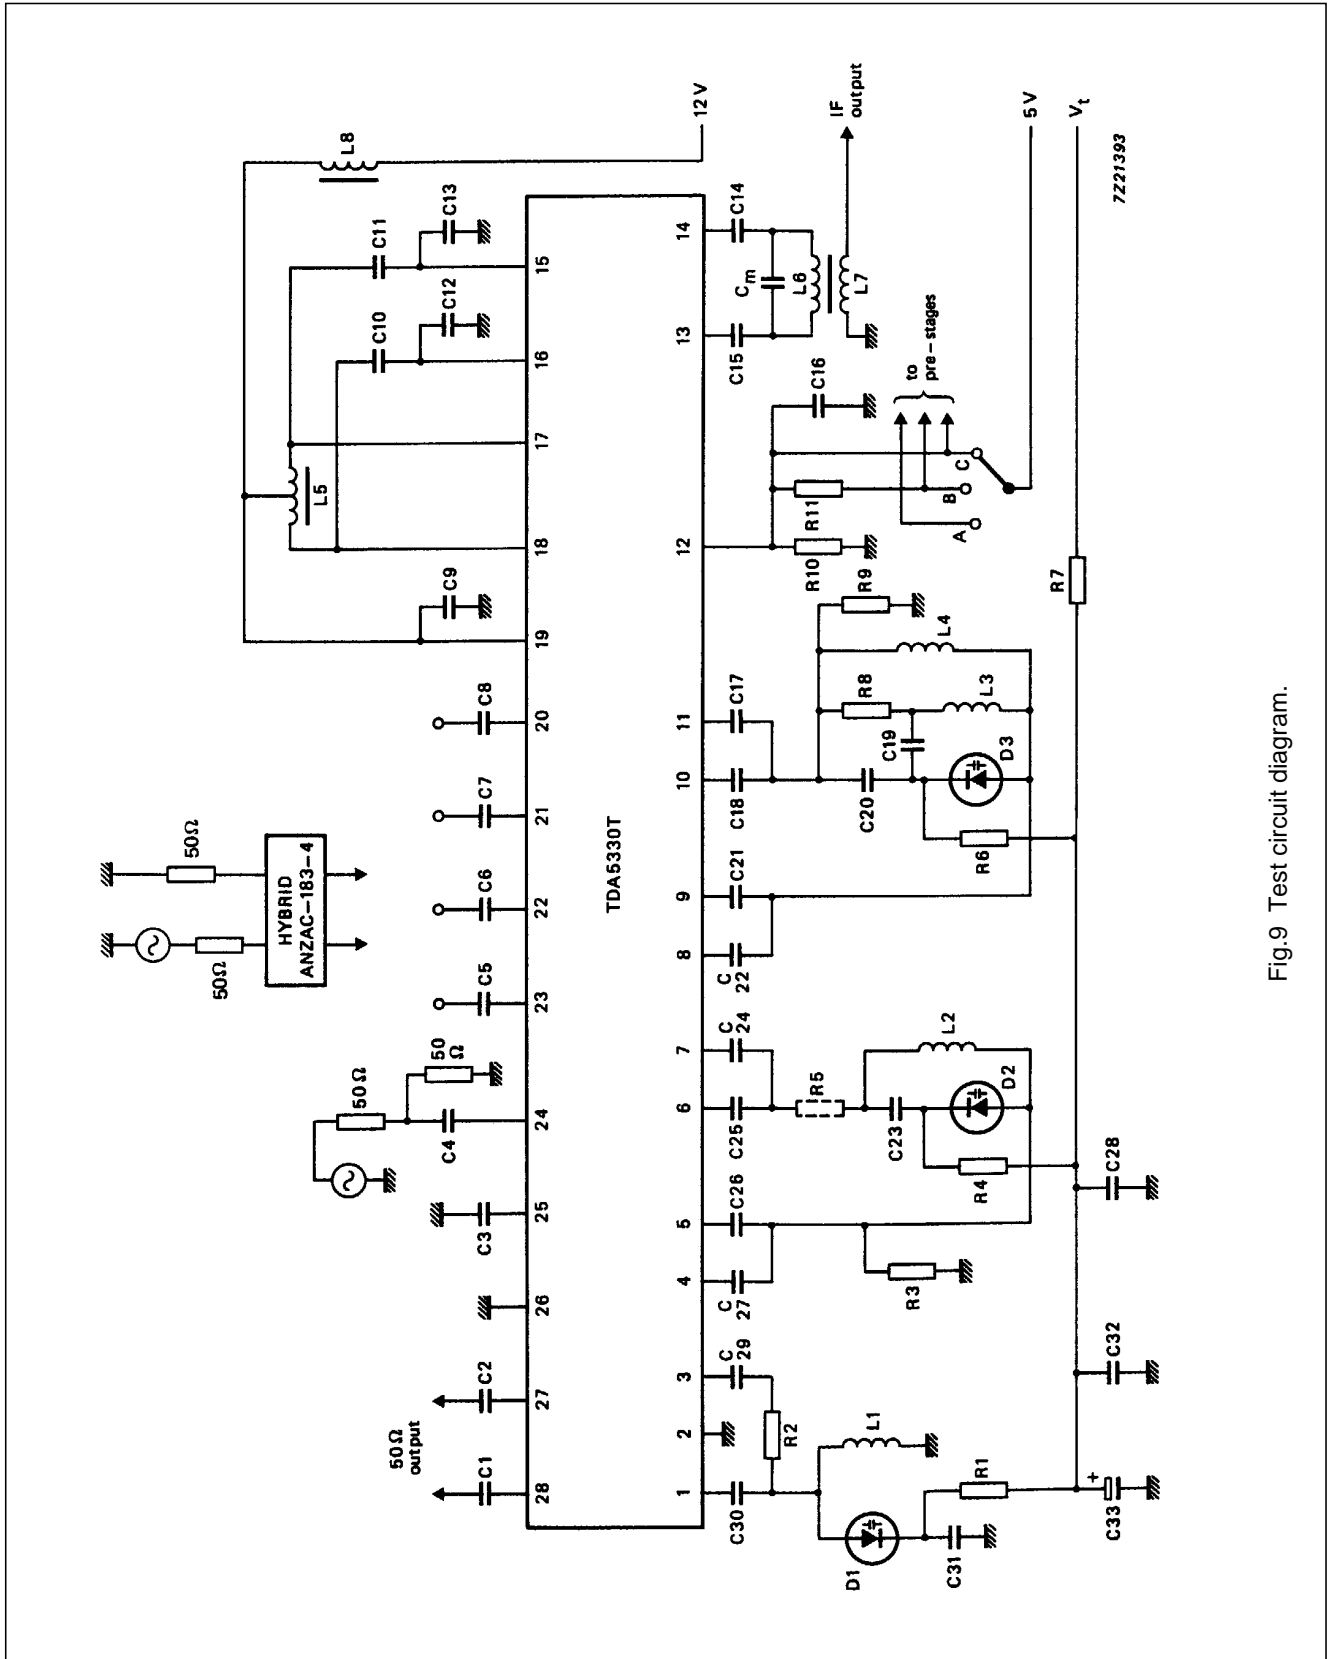

Fig.9 Test circuit diagram.
| | measured using circuit shown in Fig.9; measurements using hybrid; note 2 | | | | | |
4. The gain is defined as the transducer gain (measured in Fig.9) plus the voltage transformation ratio of L6 to L7 (6:1, 16 dB).